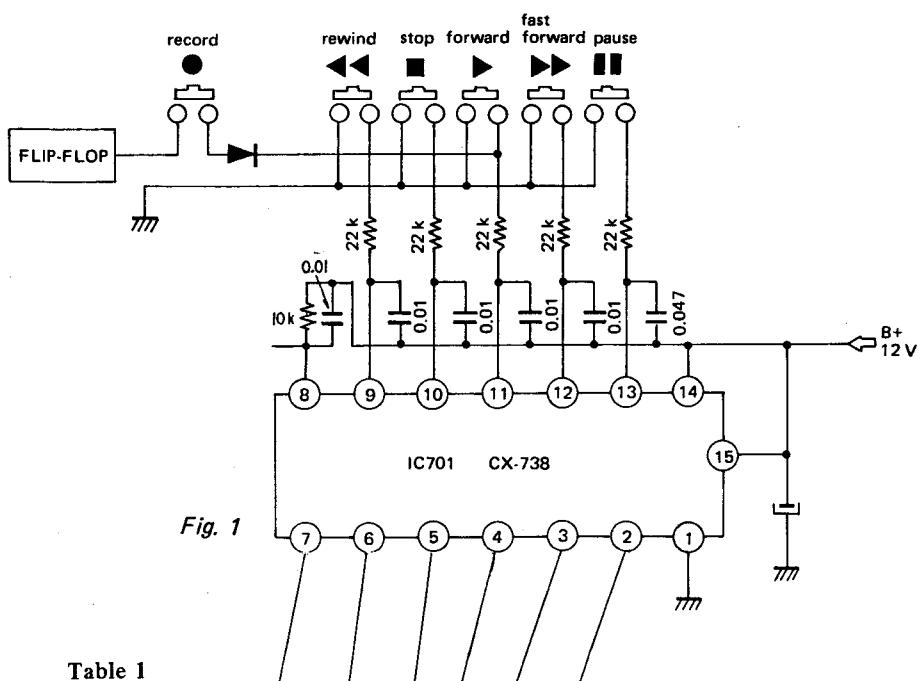

Fig. 1
2. Connect VOM as shown in Fig. 1. Then, push the each button one after another.
## 1. Action of IC701 (CX738) (Refer to Fig. 1)
Fig. 1 indicates the output in each mode by a logic value.